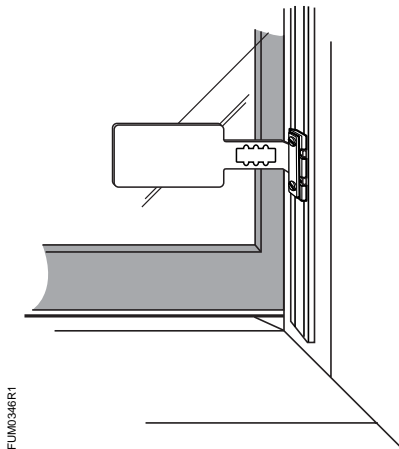

Figure 9. Location of Vertical Linkage.
1. Estimate the mounting position of the linkage (approximately 1 inch from the edge of the sash) (Figure 9).
- **For vertical:** Generally, the linkage should be mounted approximately 1 inch from the inside edge of the sash panel. See Figure 9 (p. 6).